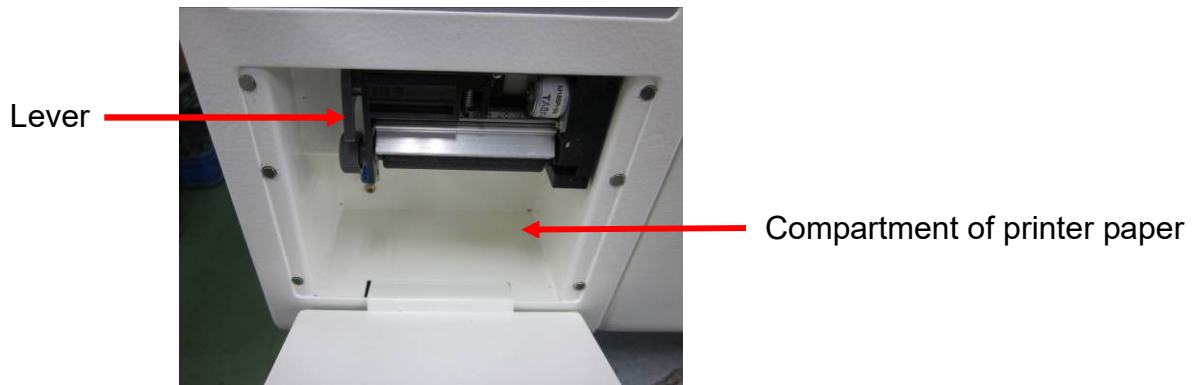

Figure 156
- C. Take out the empty roll from the compartment (See Figure 156), and replace with a new one. In order to print correctly, please load the thermal paper according to the instruction of the thermal paper for the printing side.